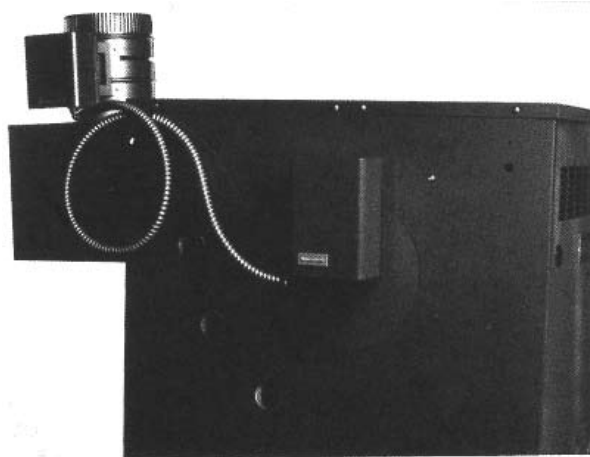

Figure 33: Vent Damper Harness to Limit
- d. Install cable clamp around flexible Vent Damper Harness. Attach to jacket top panel. See Figure 33.
3. Note: After vent damper is installed and operated through one (1) cycle, the control circuit will operate only when vent damper is in control circuit.